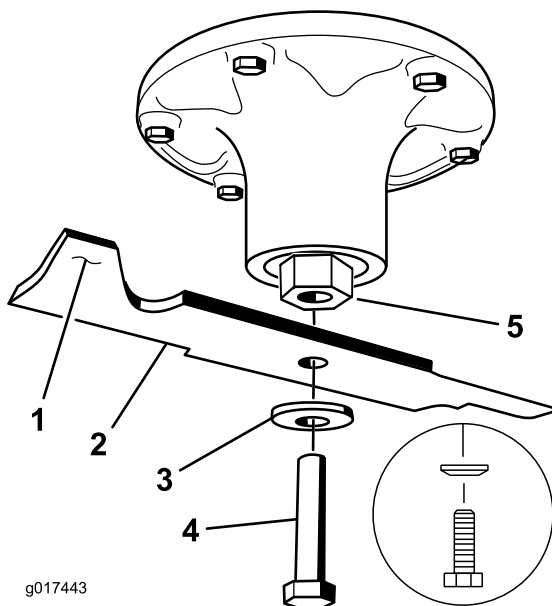
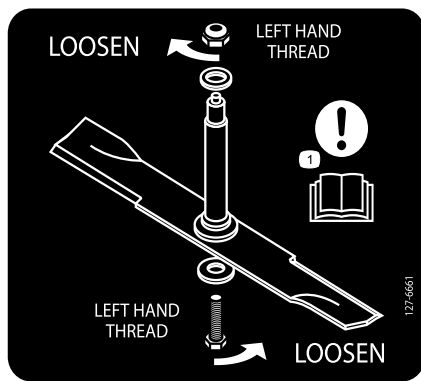

Figure 115
Figure 116
2. Remove the left and center blade bolt, curved washer, and blade from the spindle shaft (Figure 115).
3. Remove the right blade bolt (left-hand threaded bolt), curved washer, and blade from the spindle shaft (Figure 116).
Note: Note the blade type and where each blade is installed. See Figure 116 for the correct position.
Important: The right blade on this mower deck is counter-rotating and uses a left-hand threaded blade bolt. Use Figure 116 for the correct placement of the mower blades.
1. Install the left and center blades, curved washers, and blade bolts to the spindle shafts (Figure 115 and Figure 116).
Note: Ensure the curved-washer cone is installed toward the bolt head (Figure 115).
2. Install the right blade, curved washer, and blade bolt (left-hand threaded bolt) to the spindle shaft (Figure 115 and Figure 116).
3. Torque the blade bolts to 115 to 150 N·m (85 to 110 ft-lb); refer to Figure 116.